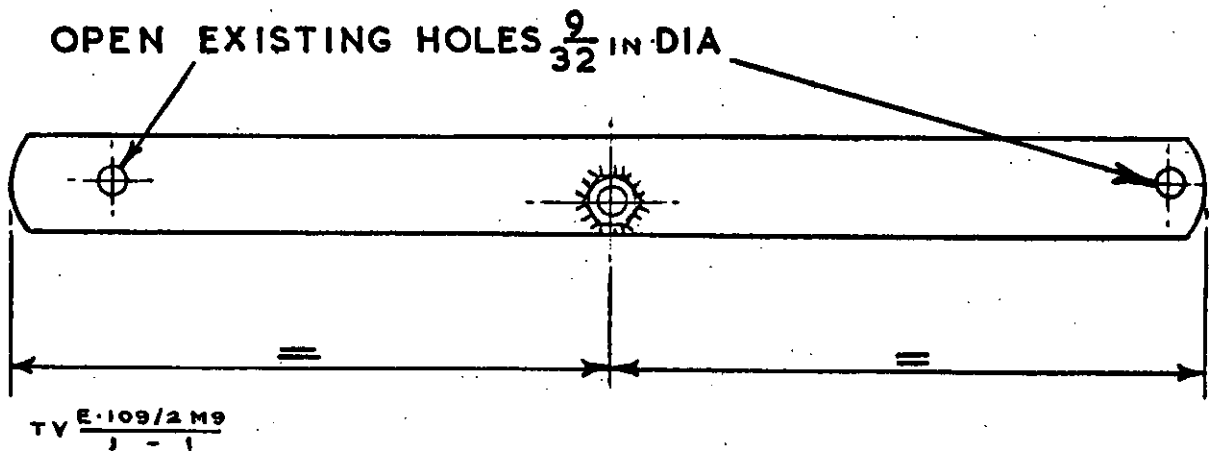

Fig 1 - Amended detail
4. See Fig 1. Remove existing 5/16 in. UNF X 3/4 in. long stud and weld to support strip in the position shown. Open out existing 7/32 in. dia holes to 9/32 in. dia.